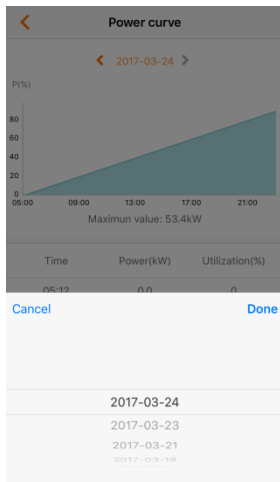

Fig. 10-11 Power curve
Step 3 Click the time selection bar on the top of the interface to check the power curve of a certain time as shown in Fig. 10-11.